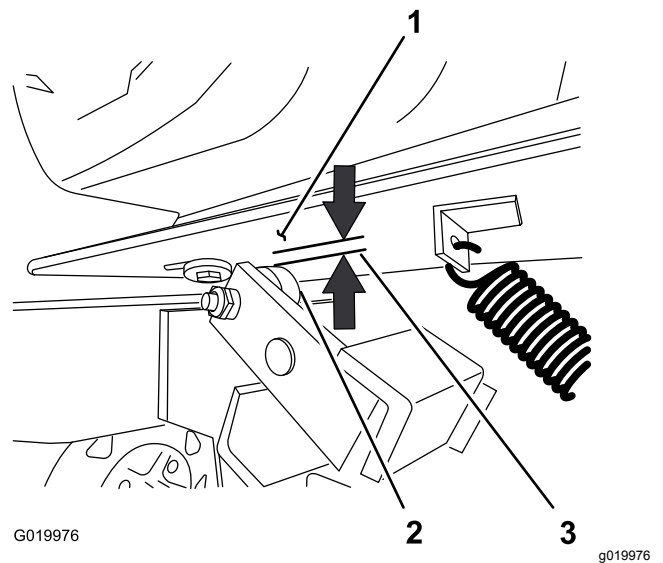

Figure 62
5. Measure the air gap between the engine deck and the roller on the clutch (Figure 62).